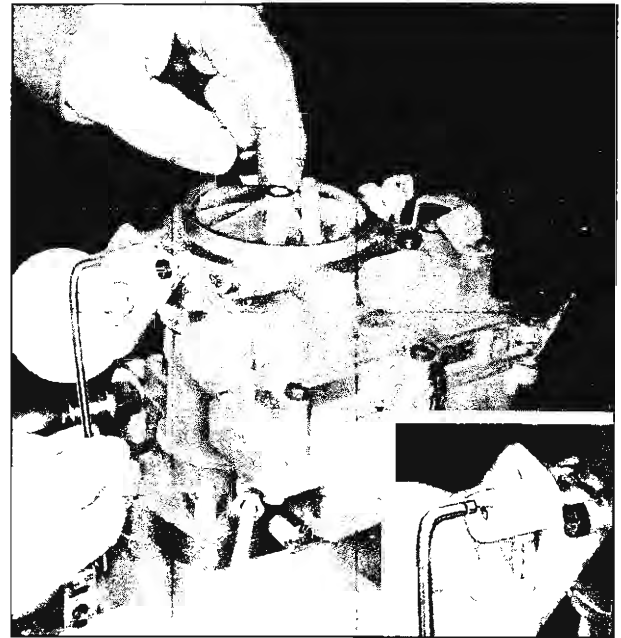

Fig. 16—Choke Adjustment (Rochester 2GV)
**V-8 Engines (283 cu. in. Fig. 16)**